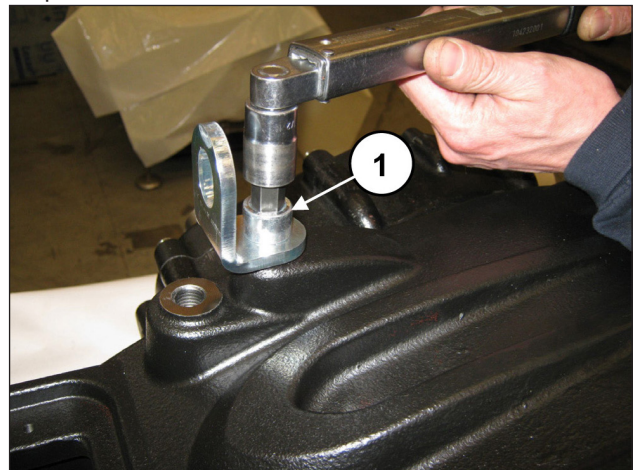

Fig. 93
Insert the tab 14x9x60 on the pinion. Apply plugs and lifting brackets with the use of M16x30 screws (pos. ①, Fig. 93). Calibrate the screws with a torque wrench as indicated in chapter 3 SCREW TIGHTENING CALIBRATION.